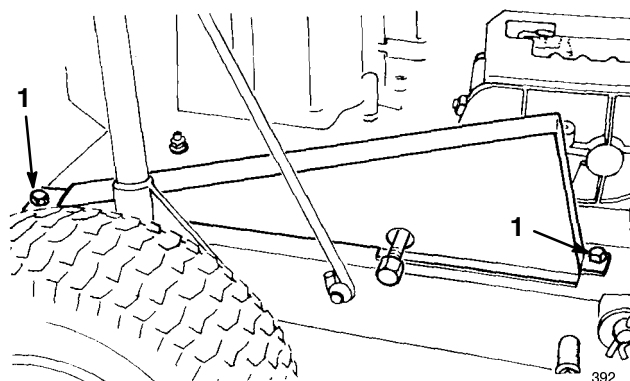

Figure 28
1. Remove two screws securing chain cover to rider chassis and lift off chain cover (Fig. 28).